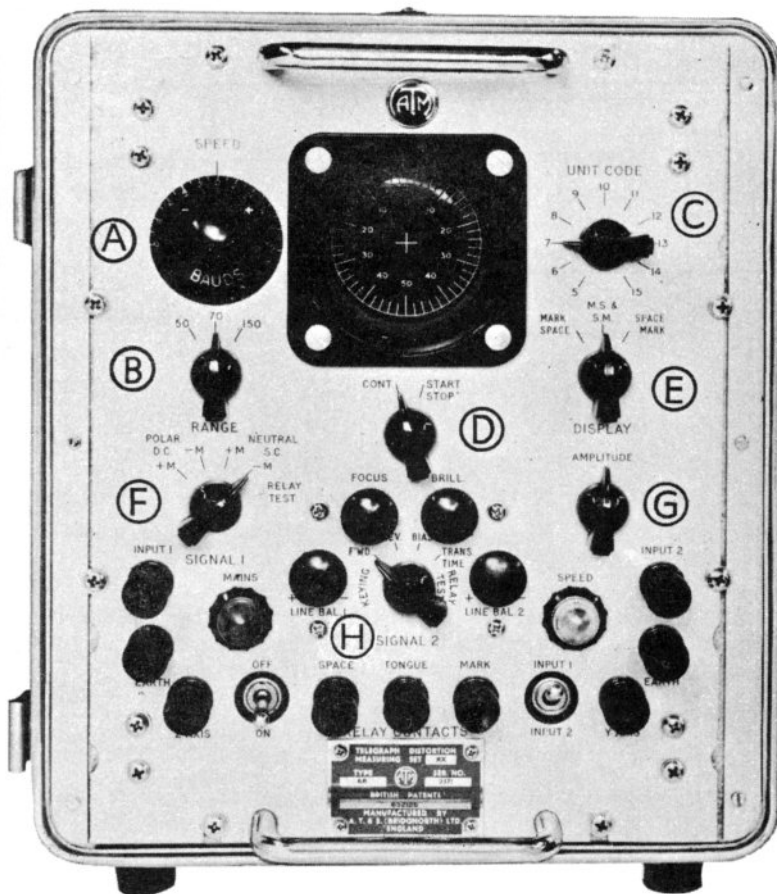
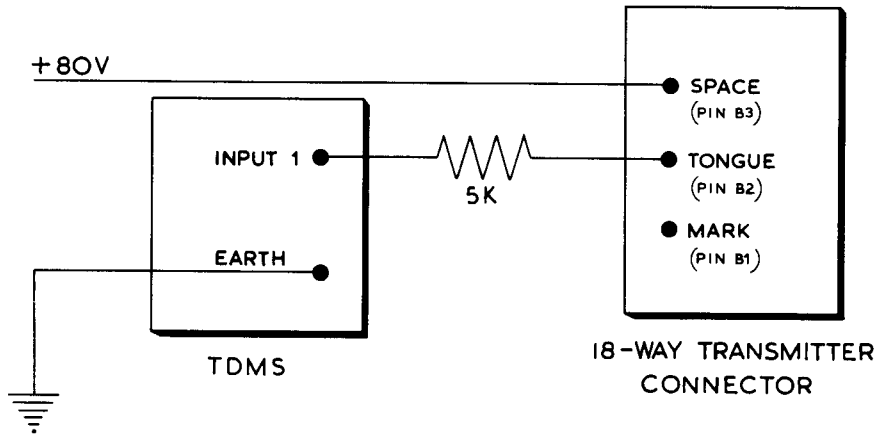

Fig. 4.63 TELEGRAPH DISTORTION MEASURING SET, TYPE 6B
Fig. 4.64 TDMS/TRANSMITTER CONNEXIONS FOR SIGNALS LENGTH CHECK
- 80.2 Set up a Telegraph Distortion Measuring Set (TDMS) as shown in Fig.4.63. Set the TDMS Controls as follows.
- ★ This adjustment describes the method to adopt when using a Telegraph Distortion Measuring Set (TDMS), A.T. and E. Type 6B, to adjust the transmitter contacts and signals length. If any other type of TDMS is used, the references and Fig.4.63 may be different but the method will remain operative.
82.2 Set up the TDMS as shown in Fig.4.63. Refer to Fig.4.64 and connect the TDMS by means of crocodile clips to the top ends of the transmitter contacts.
82.3 Set the TDMS Line Balance Control, Fig.4.63, to the centre of its range. To do this, lift the translator clutch abutment so allowing the machine to generate 6½ unit signals. Turn the Line Balance Control counter-clockwise and note the position of the control when the signals disappear from the circular trace. Turn the control clockwise and again note when the signals disappear. Adjust the control midway between these two points.
82.17 Disconnect +80V from the Space contact, Fig.4.64, and connect -80V to the Mark contact. Run out the All Space code (SSSSS) from the keyboard and check that the beginning of the Stop signal is at top dead centre.
(b) *Double-Current*. Reconnect +80V to the Space contact, Fig.4.64, and switch the TDMS Range Control (F), Fig.4.63, to D.C.-M. Depress each key in turn, examine the display and verify that distortion does not exceed $\pm 5\%$.
82.20 Switch the TDMS Unit Code (C) to 14 Units. Run out the 'R' code (SMSMS) from the keyboard and check that the second group of spots on the display appears at bottom dead centre.
82.22 Switch the TDMS Unit Code (C), Fig.4.63, to 7 Units. Connect the TDMS by means of crocodile clips to the top ends of the transmitter contacts, as follows.